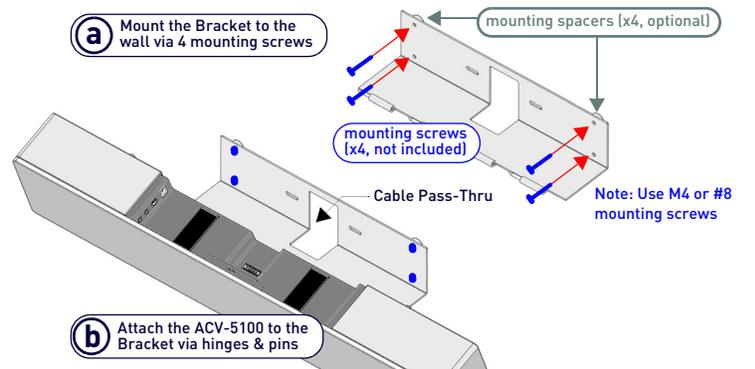

FIG. 6 WALL MOUNTING THE ACV-5100
- Mount the Bracket using mounting screws and optional mounting spacers (see FIG. 6).
*Optionally, if not hiding them behind the drywall, place the four included Wall Mount Spacers between the Bracket and the wall to create a 5mm gap for routing flat cables (see FIG. 6).*